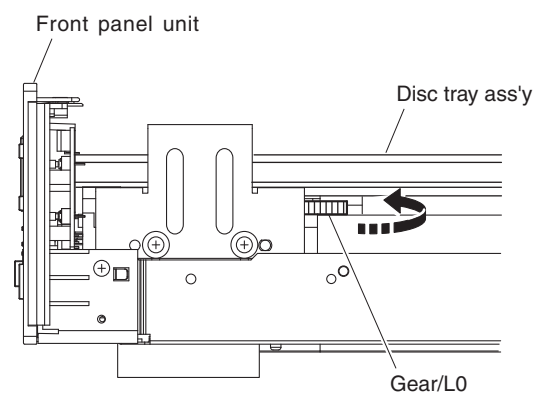

Fig. 2
- Turn gear/L0 counter clockwise gradually and stop before the disc tray starts to move. (Fig. 2)